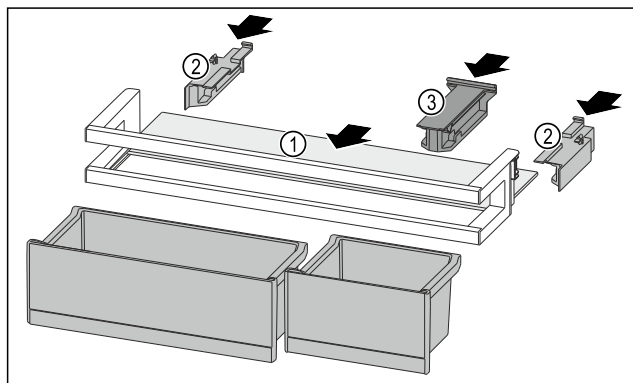

Fig. 278
- ▶ Push the shelf Fig. 278 (1) into the side recesses.
- ▶ Insert the side parts Fig. 278 (2).
- ▶ Insert the holding part Fig. 278 (3).